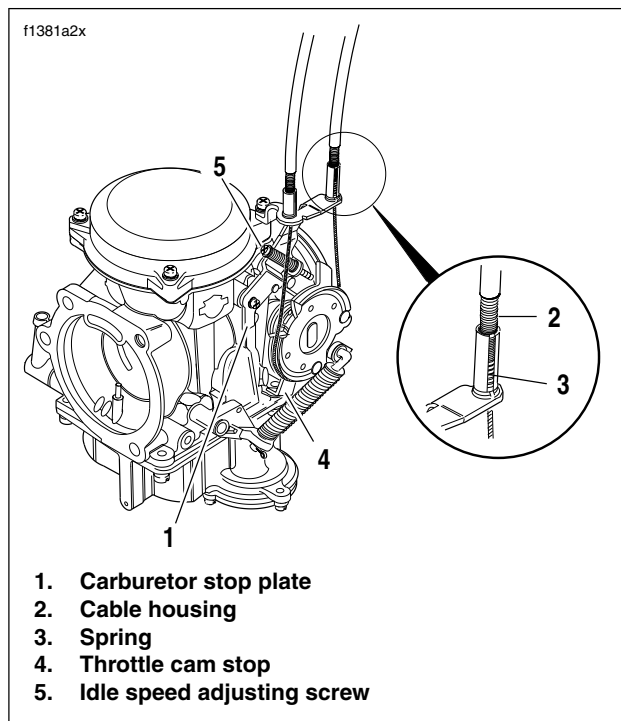

Figure 4-2. Carburetor Adjustments
See Figure 4-2. Set engine slow idle speed of 950 RPM with engine running at normal operating temperature and with enricher control knob pushed in fully. Turn carburetor idle speed adjusting screw (5) clockwise to increase speed, or counterclockwise to decrease speed.